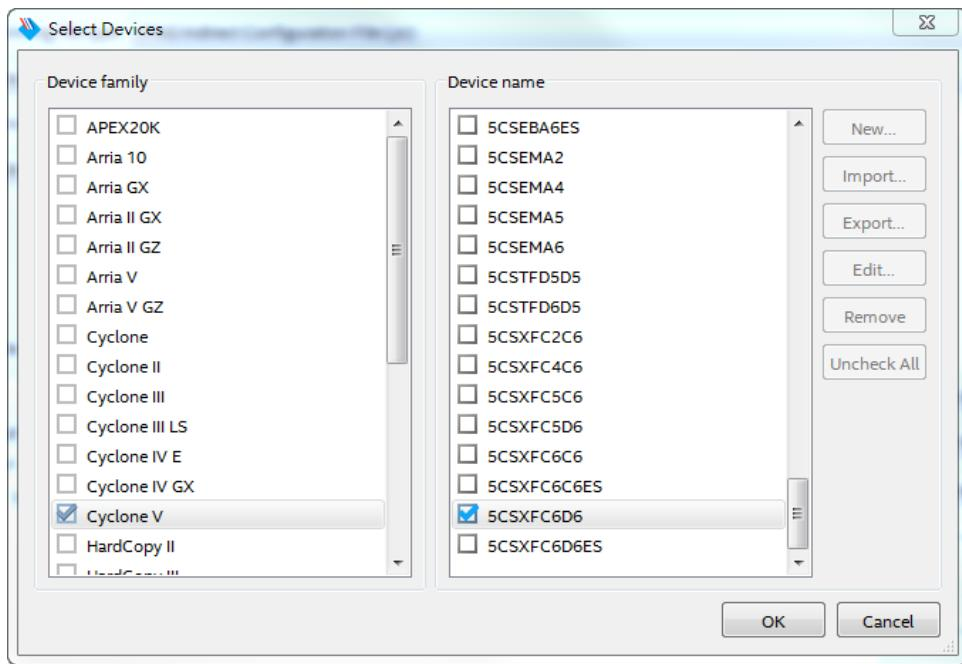

Figure 8-4 “Select Devices” page
12. Select the targeted FPGA to be programmed into the EPICS, as shown in **Figure 8-4**.